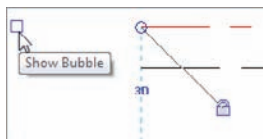

FIGURE 3.17 You can click the box that appears, to turn the level information on at the other end of the building.
To follow along, pan over to the left side of the building, where the level lines seem to just stop, as shown in Figure 3.17. Then perform these steps:
2. Notice the small blue box to the left of the level? Pick it. It will turn the level information on at that end of the building (see Figure 3.17).